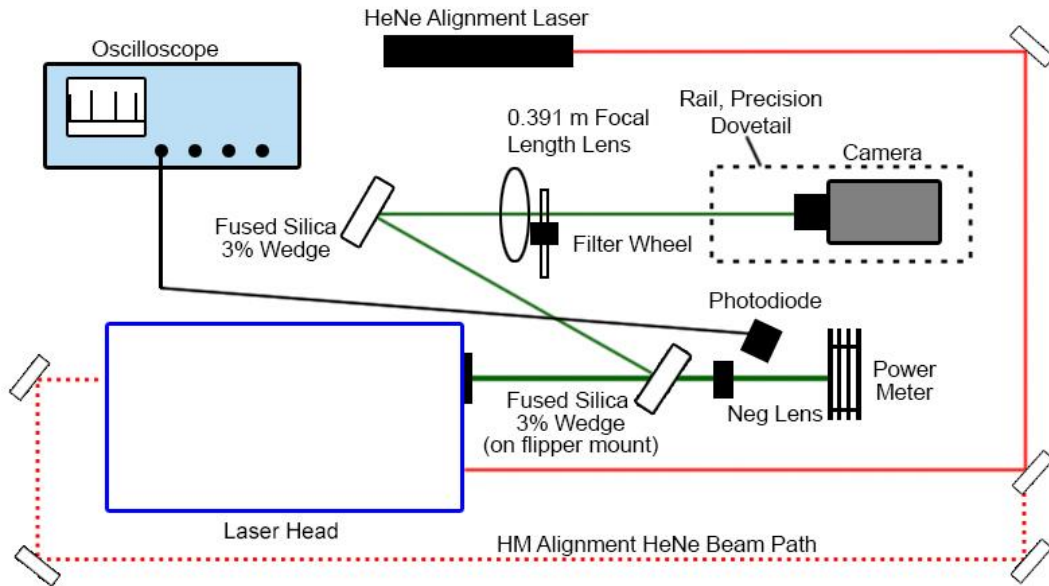
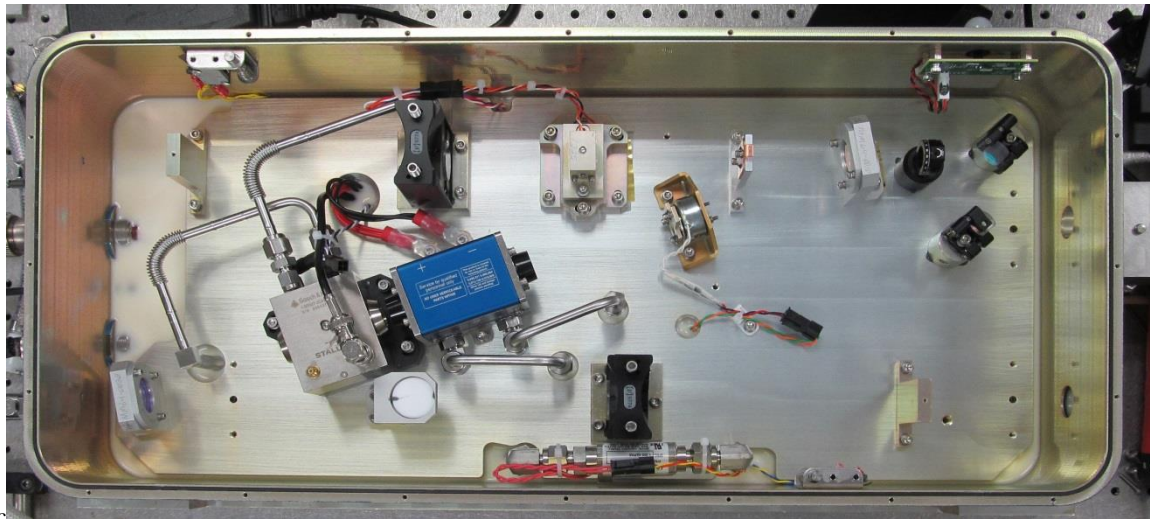

Figure 1-1: Laser Alignment and Test Set-up Diagram
Figure 1-2: Optical Bench Overview
If possible, the laser should be referenced to a HeNe (or similar alignment laser) prior to any modifications to the laser. The ideal testing and tuning set-up is shown in **Figure 1-1**. The layout and location of the laser components are shown in **Figure 1-2**.
1. Mount HeNe at least 2 meters from the laser housing HR or HM access port. See **Figure 1-1**. The HR access port is the plug on the front of the laser housing. The HM access port is the screw below the J1 connector on the rear of the laser housing.
2. For HR alignment, remove the pin hole from location 1. For HM alignment, remove the pin hole from location 4. See **Figure 1-2**.